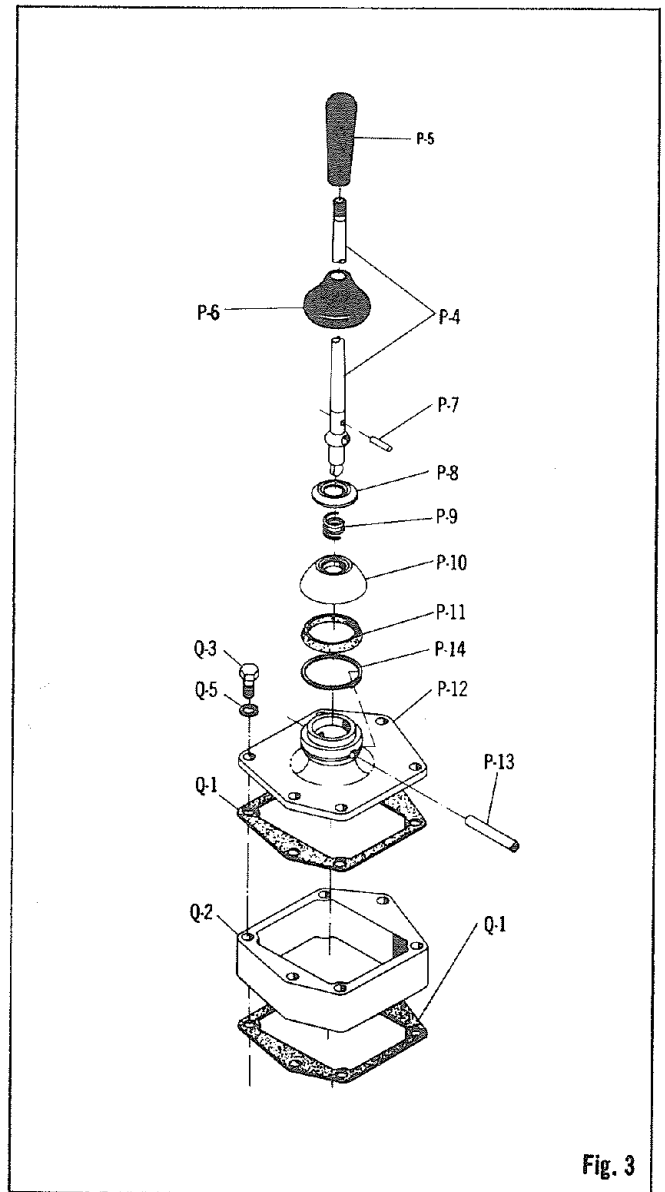

Fig. 3
1. Remove the six retaining cap screws (Q-3) and lock washers (Q-5). Separate the dome (P-12) from the shifter housing and gasket and lift straight up. (See Fig. 3).
If filler block (Q-2) is used, a second gasket (Q-1) will have to be applied as shown in Figure 3.